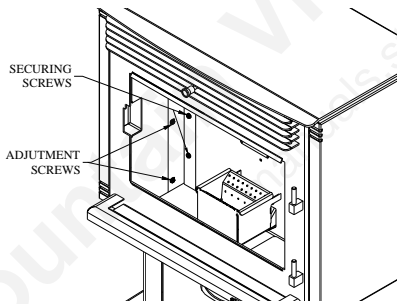
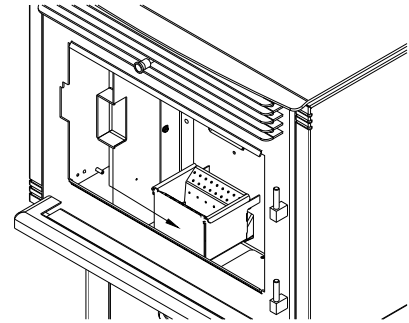
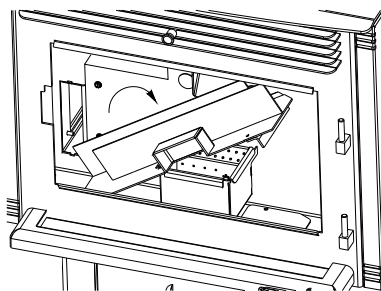
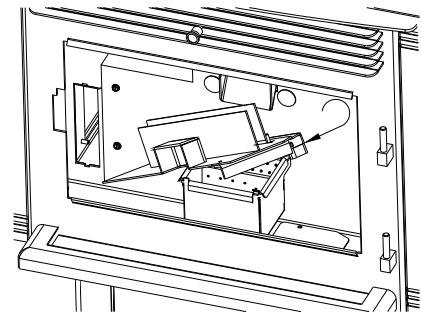

Figure 47
Figure 48
Figure 49
Figure 50
- Chamber walls:** Periodically, you must vacuum the ashes that may have accumulated on the main walls of the combustion chamber. **START BY REMOVING THE DECORATIVE MASONRY-LIKE PANELS, WHICH ARE SIMPLY HELD BY CLIPS.** The use of a vacuum is necessary. There is also a cleaning outlet located behind the left side panel of the combustion chamber. Remove this panel using a screw driver. Loosen the adjustment screws then remove the securing screws(Figure 47). Slide the wall toward right(Figure 48), tilt it (Figure 49) then remove it from the combustion chamber. Scrape off ashes. You will notice a small rectangular cleaning outlet. Inspect behind this outlet (see Figure 50) Insert the vacuum tip through the cleaning outlet and clean thoroughly. **REPEAT THIS OPERATION AT LEAST ONCE PER TON OF PELLETS BURNED UNTIL YOU ARE FAMILIAR WITH HOW ASHES ACCUMULATE WITH YOUR OPERATING PRACTICES.**